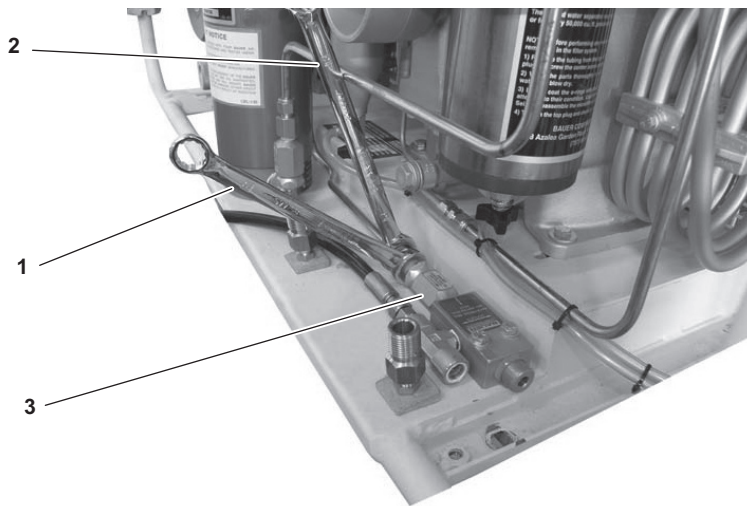

Figure 6-10. Using Wrenches on Flare and Nipple Fittings
- (3) Use a 5/8 inch wrench (figure 6-10, item 1) to hold the nipple fitting while using a 11/16 inch wrench (figure 6-10, item 2) to loosen (CCW) and disconnect the flare fitting from the nipple fitting.
- (4) Using a 5/8 inch wrench, loosen (CCW) and remove the nipple fitting from the check valve fitting (figure 6-10, item 3).